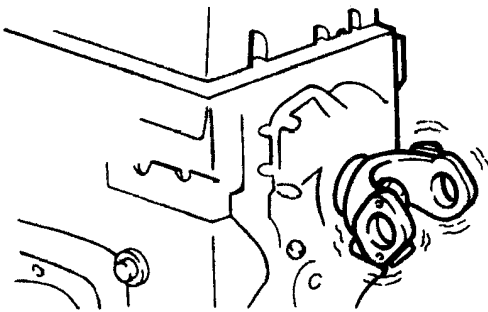

Figure 6 Check For Excessive Movement of End Yokes, Axle Input or Output Shafts
2. Check for excessive movement of end yokes at the transmission output, and axle input or output shafts in their supporting bearings (Figure 6). Refer to GROUP 02 - FRONT AXLES, GROUP 13 - TRANSMISSION, or GROUP 14 - REAR AXLES in the CTS-5000 Master Service Manual for limits.